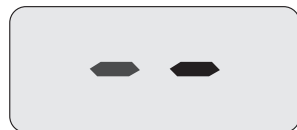
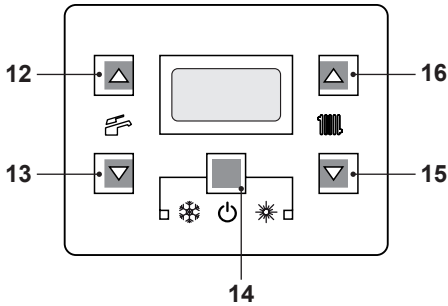

Fig. 7.4
Fig. 7.5
- Electrically power the boiler by switching on the double pole isolation switch. The LCD will display, the  symbol (Fig. 7.4).
- Press the 14 key for 2 seconds until both  and  symbols appear on the display (Fig. 7.5).
- Switch off the boiler by pressing the 14 (Fig. 7.5) key for 2 seconds until the  symbol appears on the LCD display (Fig. 7.4).